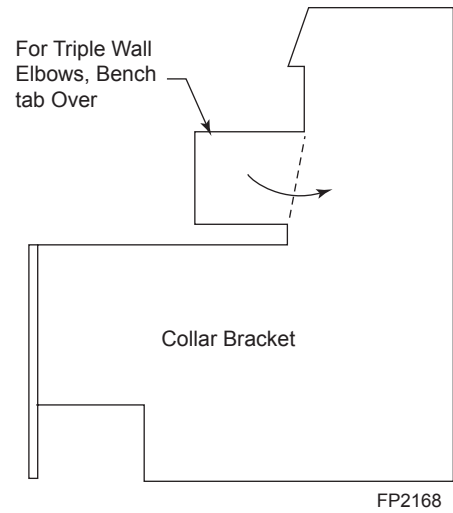

Figure 20
4. The inclined portions of chimneys that pass through living spaces likely to be used for storage should be enclosed to avoid contact with and possible damage to the chimney. The minimum air space of two inches between the chimney and enclosing materials must be maintained. *Figures 20 and 21* illustrate elbow installations.